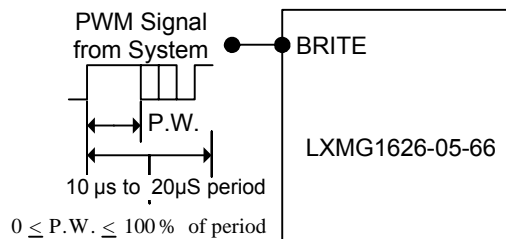

Figure 1A – PWM Brightness Control
- The brightness control may be a voltage output DAC or other voltage source, a digital pot or 500K manual pot. The inverter contains an internal 215K pull-up to 3V to bias the pot. A 3.3V Logic Level PWM signal from a microcontroller may also be used as shown in Figure 1A.